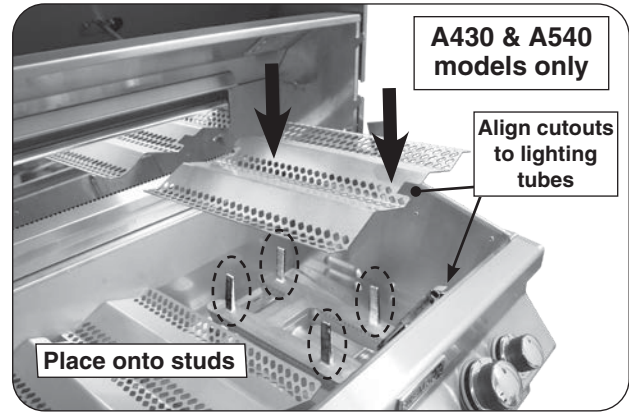

Fig. 22-2 Install flavor grids
**A430 and A540 models:** Place the flavor grids directly onto the studs on the burners. Align the cutouts to the lighting tubes. See Fig. 22-2. **The slightly larger grids are designed to be placed over the outside burners, and the slightly smaller grid over the inner burner.** The flavor grids allow heat from the burners to be evenly distributed throughout the cooking area.